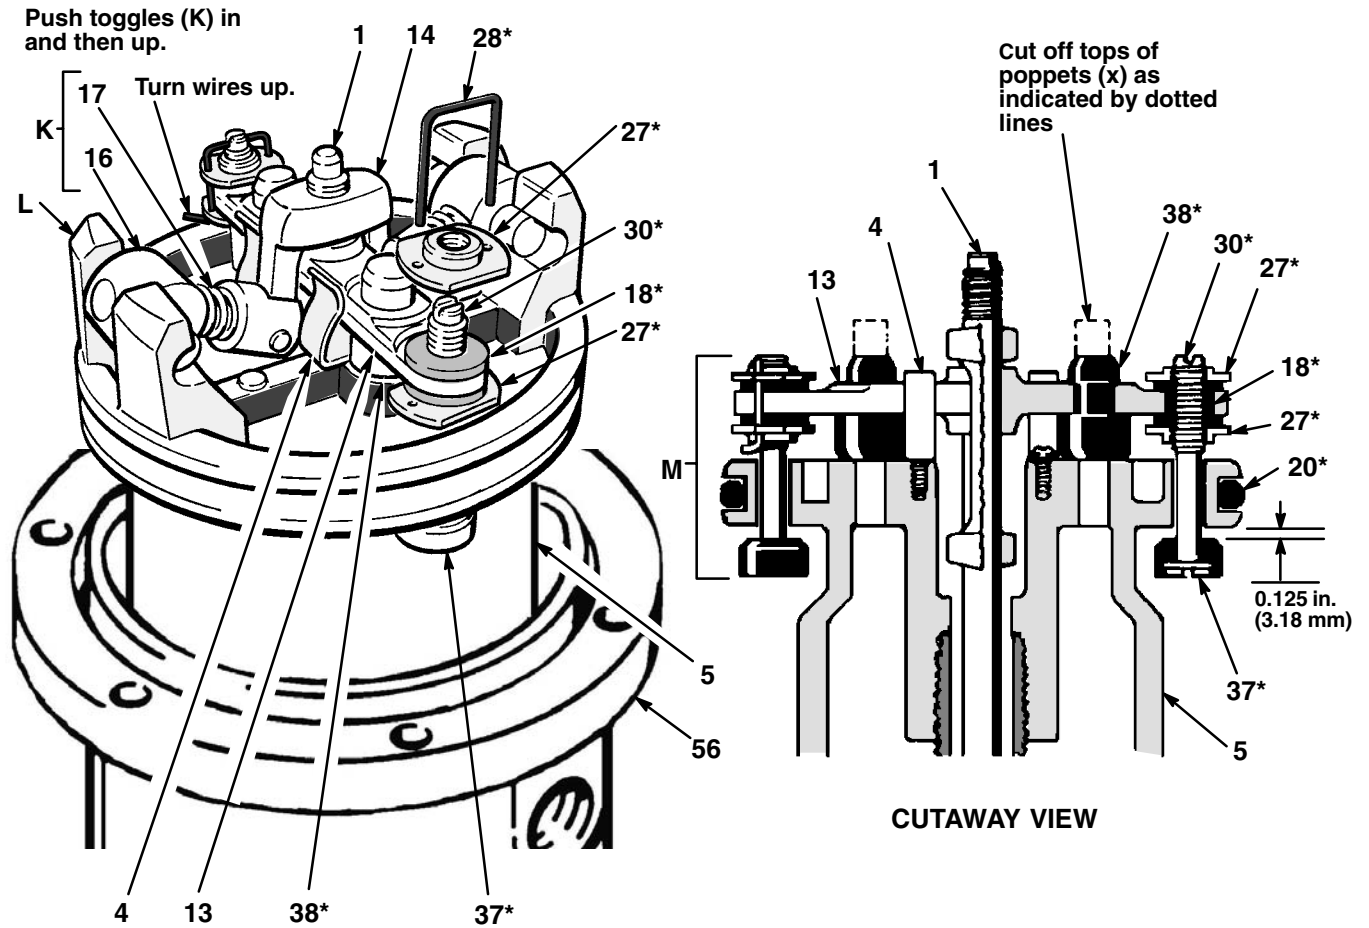

Fig. 5
Always keep fingers clear of the toggle assemblies (K), to avoid pinching or amputating them. See Fig. 5.
5. Use a screwdriver to push down on the trip rod yoke (14) and snap the toggle assemblies (K) down. See Fig. 5. Remove the lockwires (28*) from the adjusting nuts (27*) of the transfer valves (M). Screw the top adjusting nuts (27*) off. Screw the valve stems (30*) out of the grommets (18*) and lower adjusting nuts (27*). Take the valve poppets (37*) off the stems and squeeze them firmly to check for cracks.
- Grip the toggle rockers (16) with a pliers. Compress the springs (17) and swing the toggle assembly (K) up and away from the piston lugs (L), and remove the parts. Check that the valve actuator (13) is supported by the spring clips (4), but slides easily into them. See Fig. 5.
- Remove the trip rod yoke (14), valve actuator (13) and trip rod (1). Check the exhaust valve poppets (38*) for cracks.
4. Be sure the o-rings are in place. Slide the piston rod down through the throat bearing and lower the piston (5) into the air motor base (56).
5. Pull the exhaust valve poppets (38*) into the valve actuator (13) and clip off the top part shown with dotted lines. See Fig. 5.
6. Install the transfer valve poppets (37*) onto the valve stems (30*), then reassemble the valve stems (30*), bottom adjusting nuts (27*), grommets (18*), and top adjusting nuts (27*) on the piston (5). Assemble the trip rod (1), valve actuator (13), trip rod yoke (14) and toggle assemblies (K) on the piston. See Fig. 5.
7. Before installing the lockwires (28*) in the adjusting nuts (27*), use the special gauge 171818 to adjust the transfer valve (M) so there is 0.125 in. (3.68 mm) clearance between the poppets (37*) and the piston (5) when the toggle assemblies are in the *down* position. See Fig. 5.
8. Snap the toggle assemblies (K) to the *up* position. Reinstall the cylinder (32) and cap nut (31). Reassemble the air motor to the displacement pump.